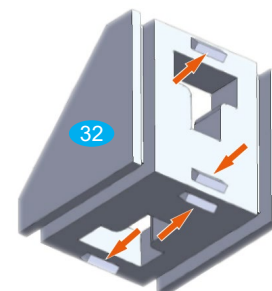

Fig. 5: Centering tabs on mounting bracket
*When installing a bracket (32) on a component without fastening grooves, the centering tabs on the bracket must first be removed (red arrows in Figure 5). This can be done by breaking off with a screwdriver, filing or grinding.*